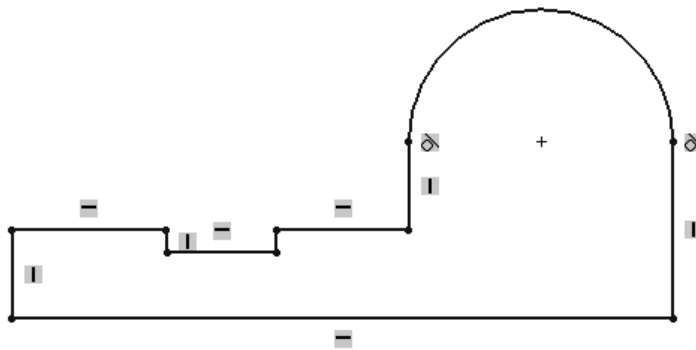

Figure 2-62 Sketch after drawing the outer loop
19. Choose the **Zoom to Fit** button to fit the sketch on the screen. This completes the outer loop of the sketch. The sketch, after drawing the outer loop, is shown in Figure 2-62.